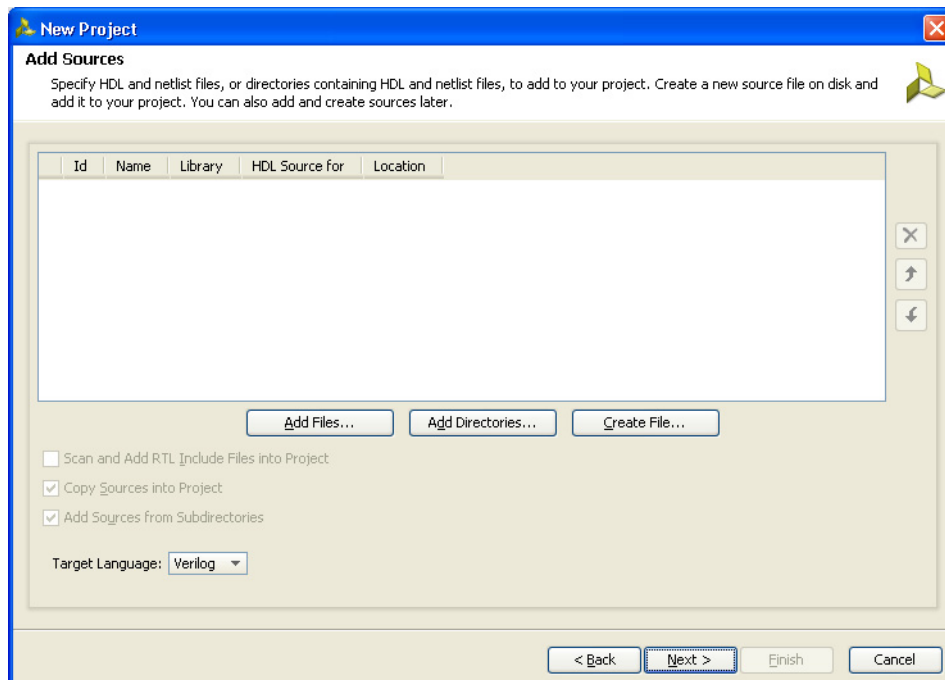

Figure 3-5: Add Sources
- Click **Next** to proceed to the Add Sources page (Figure 3-5). RTL files can be added to the project in this page. If the project was not created earlier, proceed to the next page.